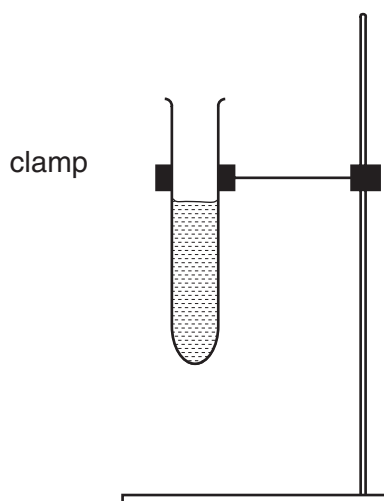

Fig. 1.1
1. The test-tube is to be set up for the candidates as shown in Fig. 1.1.